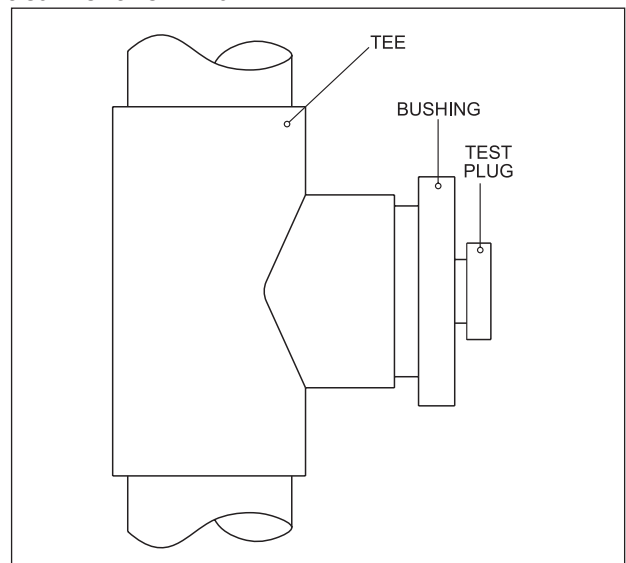

Figure 18. Test Port - ULC-S636 system
**IMPORTANT!** It is also the responsibility of the installer to ensure that a flue gas sampling port is installed in the vent system. This flue gas sampling port must be installed near the flue connection of the Brute unit: within 2 feet of the flue connection. There is no flue gas sampling port internal to the Brute, so one must be installed in the vent system external to the Brute unit. A flue gas sampling port available as a component of the ULC S636 certified vent system is preferred. However, if one is not available with the certified vent system, Bradford White suggests using a tee with the branch connection sized to allow for insertion of a flue gas analyzer probe. The branch connection must be resealable with a cap or other by other means to ensure the vent system remains sealed. (See Figure 18)